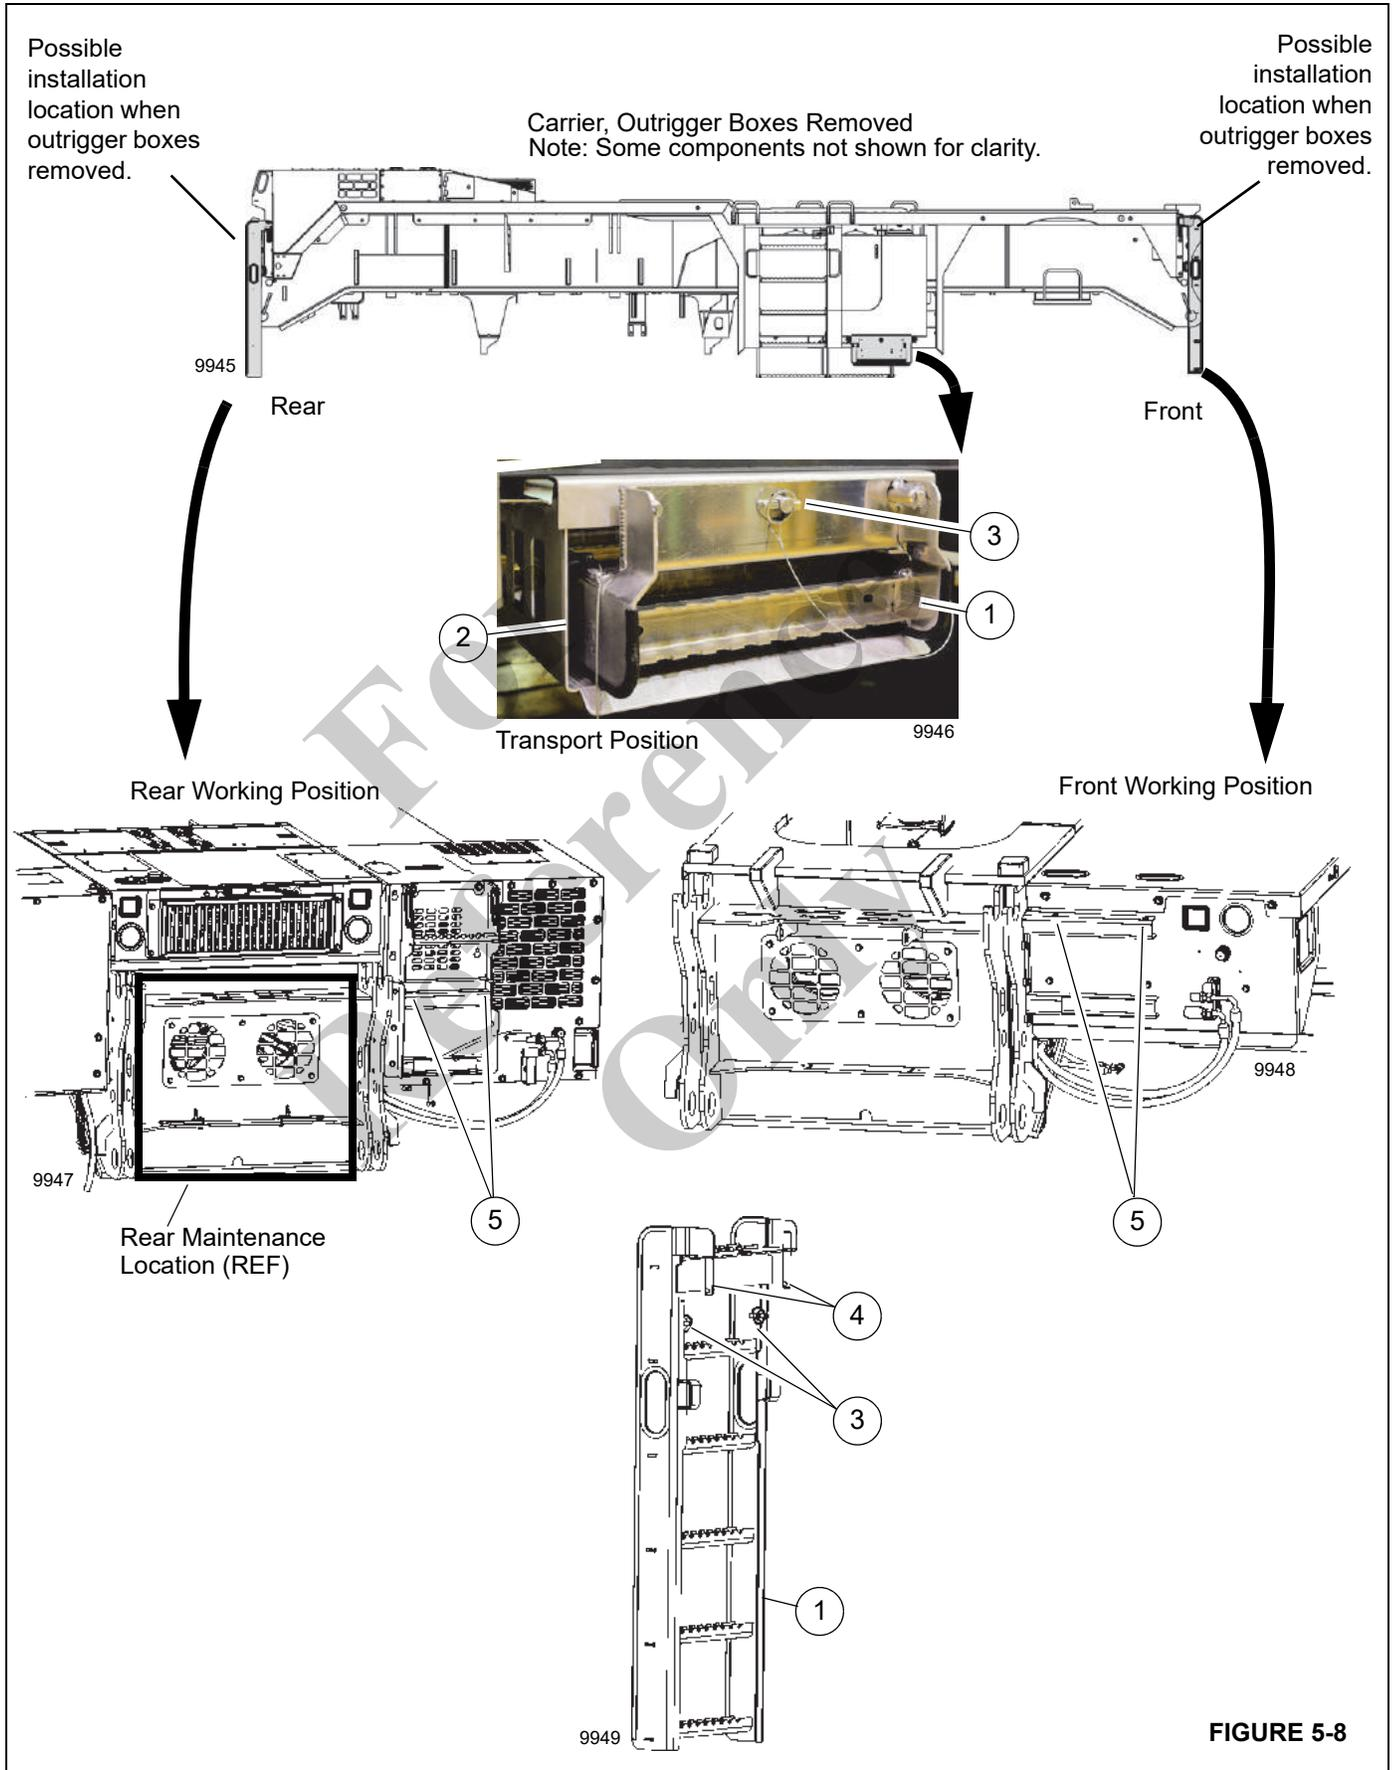

FIGURE 5-8
Figure 5-8 shows the stowage and possible installation locations for the auxiliary ladder when the outrigger boxes
1. Remove the auxiliary ladder (1, Figure 5-8) from the installed position.
2. Slide the auxiliary ladder (1) in to the stowage bracket (2).
3. Secure the auxiliary ladder (1) to the bracket with the ladder quick pin (3). Secure the other ladder quick pin as necessary.
Use this procedure to install the auxiliary ladder (1, Figure 5-8) in the front and rear locations. Use the front and rear ladder locations to access the crane decking.
1. Remove the quick pin (3, Figure 5-8). Remove the auxiliary ladder (1) from the stowage bracket (2).
2. Insert ladder installation pins (4) in holes (5) at the front or rear ladder location.
3. Secure the ladder (1) with pins (3).
2. Remove the quick pin (3, Figure 5-8). Remove the auxiliary ladder from the stowage bracket (2).